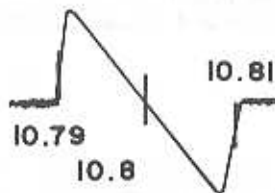

Figure 3
5. Connect scope to pin TP-3 and adjust T3 so that 10.8MHz is in center of discriminator curve and for best linearity. See Figure 3.